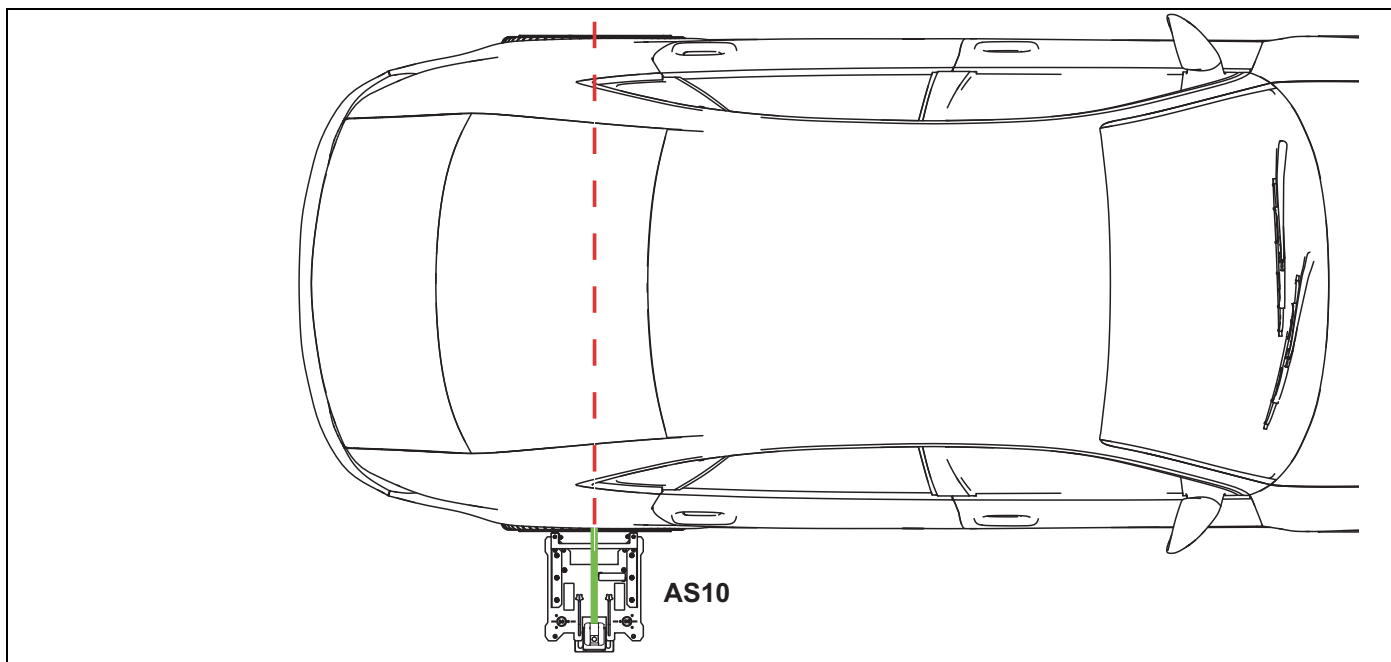

Figure 5-4
3. Place the AS10 alignment fixture at the rear wheel, so that both posts are touching the tire (Figure 5-4).
4. Set the laser assembly at position “1” on the AS10 fixture, then move the fixture as needed to align the laser with the center of the wheel hub (Figure 5-4).